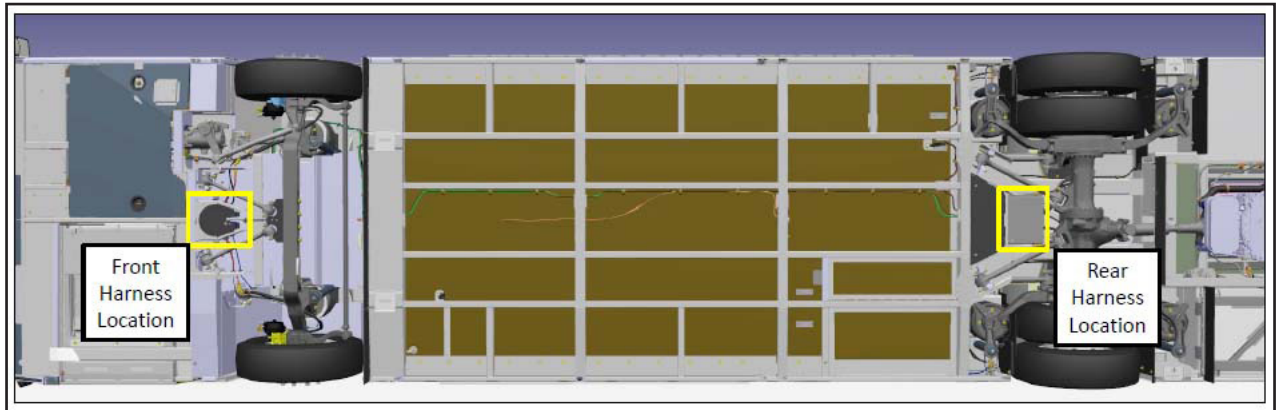

Figure 3 - Harness Locations
1.4. Lift the vehicle to access the harness locations (see Figure 3).